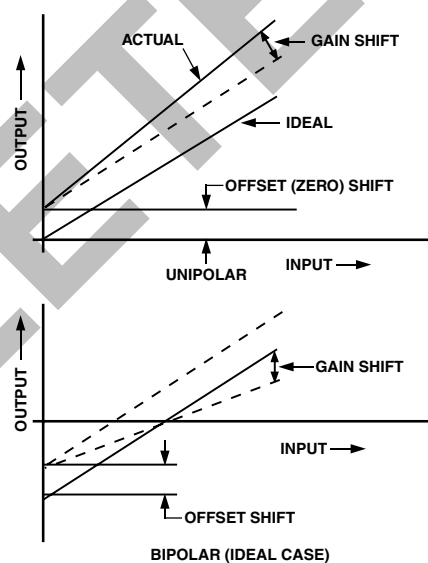

Figure 5. Unipolar and Bipolar Drifts
Temperature error analysis in the unipolar mode is straightforward: there is an offset drift and a gain drift. The offset drift (which comes from leakage currents and drift in the output amplifier (OA)) causes a linear shift in the transfer curve as shown in Figure 5. The gain drift causes a change in the slope of the curve and results from reference drift, DAC drift, and drift in  $R_{GAIN}$  relative to the DAC resistors.
Note that if the DAC and application resistors track perfectly, the bipolar offset drift will be zero even if the reference drifts. A change in the reference voltage, which causes a shift in the bipolar offset, will also cause an equivalent change in  $I_{REF}$  and thus  $I_{DAC}$ , so that  $I_{DAC}$  will always be exactly balanced by  $I_{BP}$  with the MSB turned on. This effect is shown in Figure 5. The net effect of the reference drift then is simply to cause a rotation in the transfer around bipolar zero. However, consideration of second order effects (which are often overlooked) reveals the errors in the bipolar mode. The unipolar offset drifts previously discussed will have the same effect on the bipolar offset. A mismatch of  $R_{BP}$  to the DAC resistors is usually the largest component of bipolar drift, but in the ADDAC80 this error is held to 10 ppm/°C max. Gain drift in the DAC also contributes to bipolar offset drift, as well as full-scale drift, but again is held to 10 ppm/°C max.